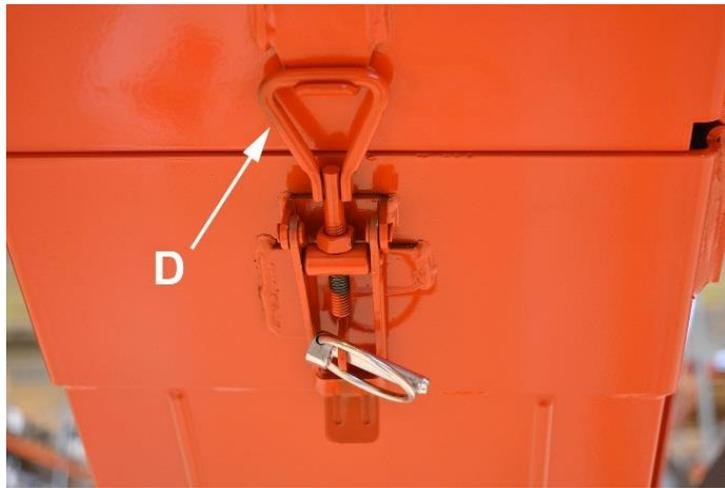

Figure 4d.
6. Use a winch to lift the conveyor to the desired angle (max 40°) and lock the upper section of the out-feed conveyor to the operating position using lock D (Figure 4d).